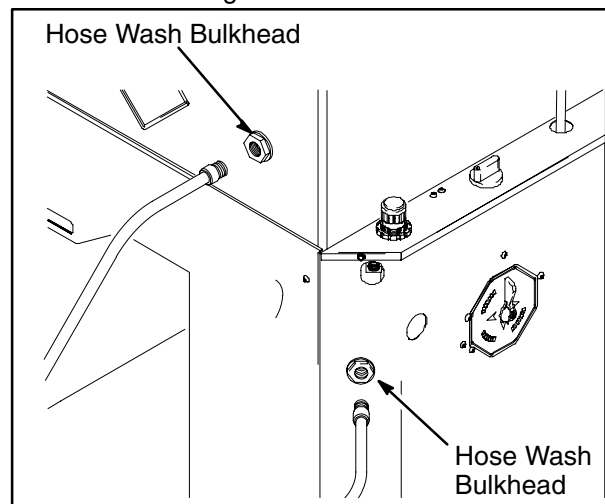

Fig. 5
1. Remove the brass plugs from the Hose Wash Bulkhead. See Fig. 5.